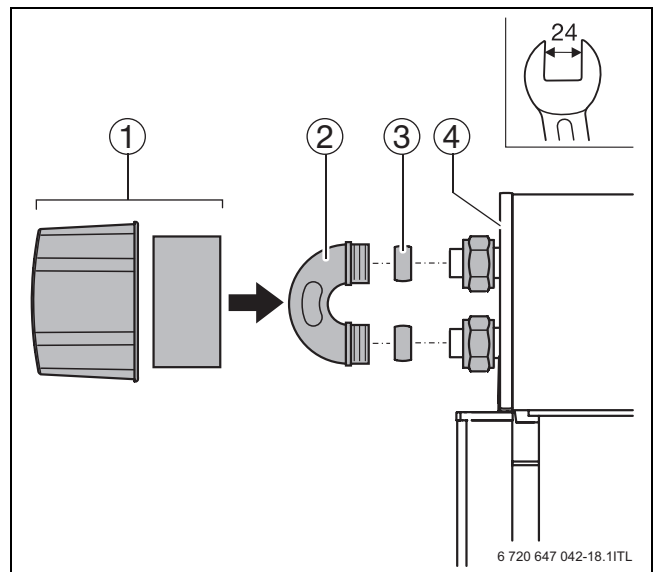

Fig. 39 Fitting the return feed bend and cap
- ▶ Fit the return U-bend to the last collector (→ Fig. 39, page 26).